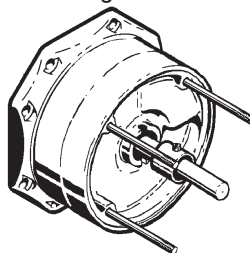

Figure 4-17
12. Slide an Interstage Bushing (#16) onto the shaft. The bushing should be oriented such that the end with the screw is furthest from the motor and the screw head fits into the slot in the right channel ring. Refer to Figure 4-17.
16. Slide an Interstage Bushing (#16) onto the shaft. The bushing should be oriented such that the end with the screw is furthest from the motor and the screw head fits into the slot in the right channel ring. Refer to Figure 4-17.
17. Slide an Interstage Bushing (#16) onto the shaft. The bushing should be oriented such that the end with the screw is further from the motor and the screw head fits into the slot in the right channel ring. Refer to Figure 4-17.